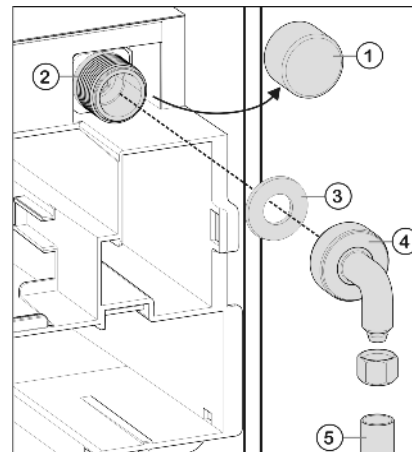

Fig. 43
- ▶ Remove the cap Fig. 43 (1) from the solenoid valve Fig. 43 (2).
- ▶ Ensure that the gasket Fig. 43 (3) is inserted in the elbow connection Fig. 43 (4) supplied.
- ▶ Connect the elbow adapter Fig. 43 (4) to the solenoid valve Fig. 43 (2) and tighten with an open-ended wrench, for example.
- Connect the domestic water supply *Fig. 43 (5)* (e.g. copper pipe) to the elbow connector *Fig. 43 (4)*.